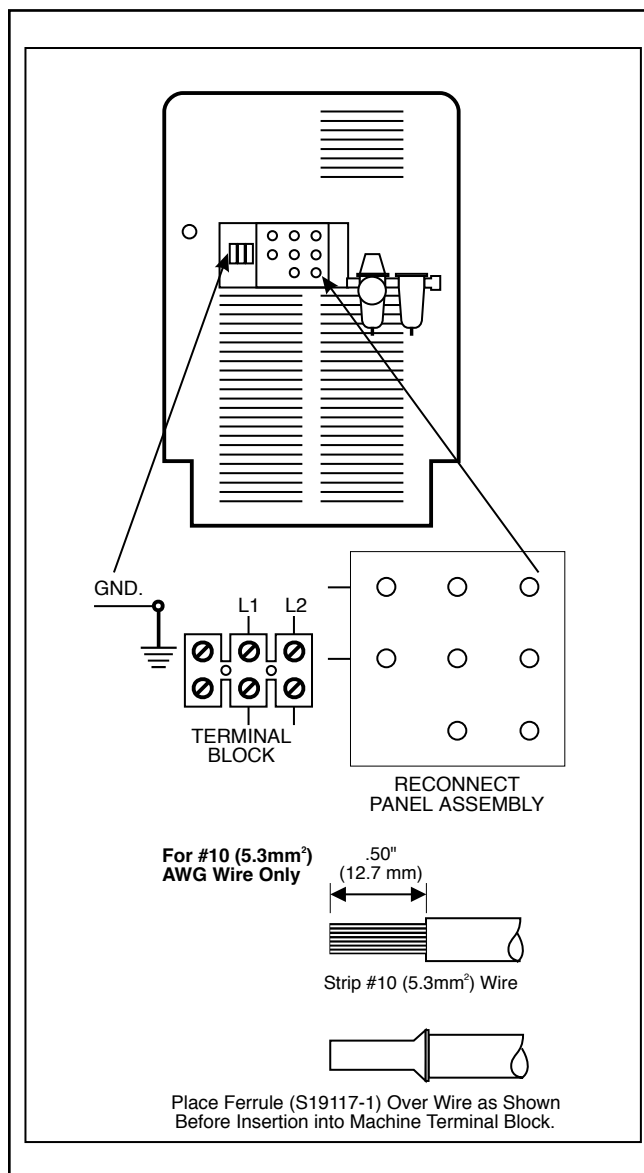

FIGURE A.2 - Input Power Supply Connections.
4. Connect leads to machine's terminal block. See Figure A.2.